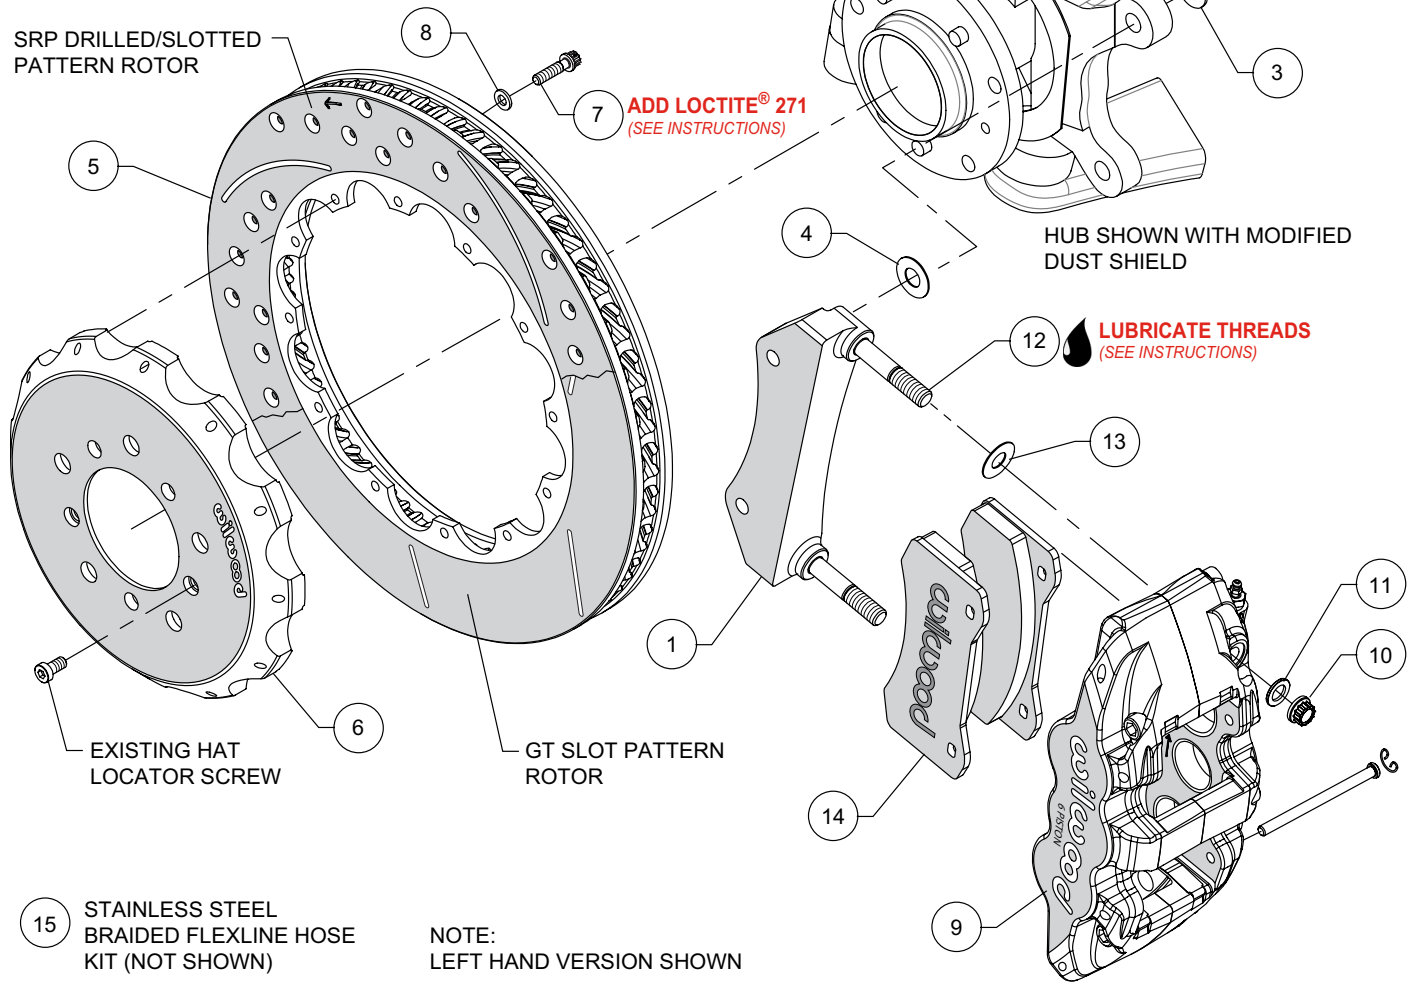
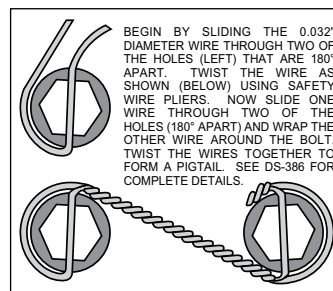

Figure 1. Typical Installation Configuration
Figure 3. Safety Wire Diagram
Assembly Instructions (numbers in parenthesis refer to the parts list and Figure 1 on the preceding pages):
- The caliper mount bracket (1) should initially be installed with clean, dry threads on the mounting bolts. Orient the bracket as shown in Figure 1 and Photo 2, and install using bolts (2) and washers (3). Initially place one .033 thick shim (4) on each bolt between the bracket and upright, Figure 1. Temporarily tighten the mounting bolts. **NOTE:** The bracket must fit squarely against the mounting points on the upright. Inspect for interference from casting irregularities, machining ridges, burrs, etc. Later, after the caliper alignment has been checked, the mount bolts will be secured using red *Loctite*® 271.
- Orient the rotor (5) and the hat (6) as shown in Figure 1 and Photo 3. Attach rotor to hat using bolts (7) and washers (8). Apply red *Loctite*® 271 to the bolt threads and torque to 155 **in-lb** using a criss-cross pattern. For an added measure of security, the bolts may be safety wired using standard 0.032 inch diameter stainless steel safety wire as shown in Figure 3. Please refer to Wilwood's data sheet DS-386 (available at www.wilwood.com/Pdf/DataSheets/ds386.pdf) for complete safety wire installation instructions.
- NOTE:** This kit contains distinct right and left hand calipers that must be mounted in a specific direction, as described below. Lubricate the caliper mounting studs (12) with lightweight oil. Initially place one .030" thick shim (13) on each stud between the caliper and the bracket, as shown in Figure 1 and Photo 5. Mount the caliper (9) onto the bracket (1) using lock nuts (10) and washers (11), Figure 1. Ensure that the caliper is mounted so the largest pistons are at the rotor exit end of the caliper, in relation to the direction of rotor rotation. Temporarily tighten the lock nuts and view the rotor through the top opening of the caliper. The rotor should be centered in the caliper, Photo 6. If not, adjust by adding or subtracting shims (4) between the bracket and the upright. Always use the same amount of shims on each of the two mounting bolts. Once the caliper alignment is correct, remove the bracket mounting bolts (2) one at a time, apply red *Loctite*® 271 to the threads, and torque to 60 ft-lbs.
- Remove the caliper (9) then remove the two pad retaining pins by carefully popping out the pin retaining clips and sliding out the pins. Insert the brake pads (14) into the caliper from the bottom, Figure 1 and Photo 7. With the friction material facing the rotor,